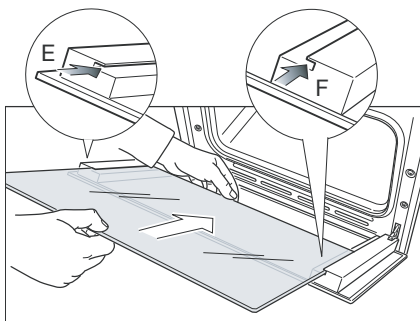
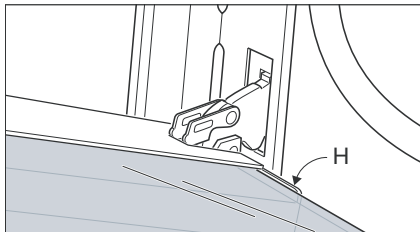

Fig. 26b
Fig. 26c
- Insert the pane in the left "E" and right "F" slide guides (Fig. 26b), and gently slide it to the retainers "H" (Fig. 26c).